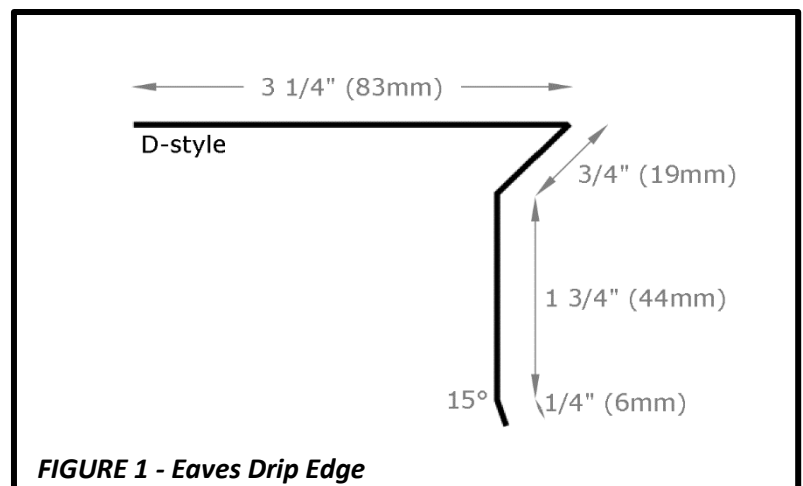

FIGURE 1 - Eaves Drip Edge
- EAVES** - FWAVE recommends a **D-style drip edge** at the eaves, extending a minimum of **2" (51mm)** back from the roof edge; bending downwards over the fascia. See **Figure 1**. Apply underlayment over drip edge metal at eaves.